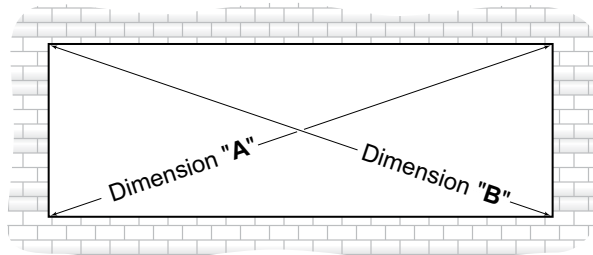

Fig. 22.1 Dimension "A" = "B"
- A. Make sure the opening is square and plumb. Measure each diagonal of the opening. **SEE Fig. 22.1.**